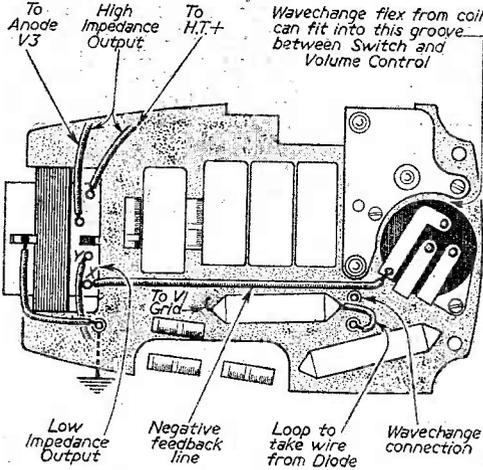

Fig. 6.—Rear of chassis after conversion.
3. Draw this free wire back through the hole and cut it short to a critical length so that with a small loop at its free end this loop will lie exactly over the hole through which the lead was drawn (this loop, or simply the end bent over, will ultimately take the end of the diode which will pass up through the same hole). Before making the loop it is as well to tin the end of the wire (Fig. 6).
hole and extends on the front side sufficiently to allow connection to a flexible wire coming from the coil. (See Figs. 6 and 3.)
Photograph of the view shown in Fig. 6.